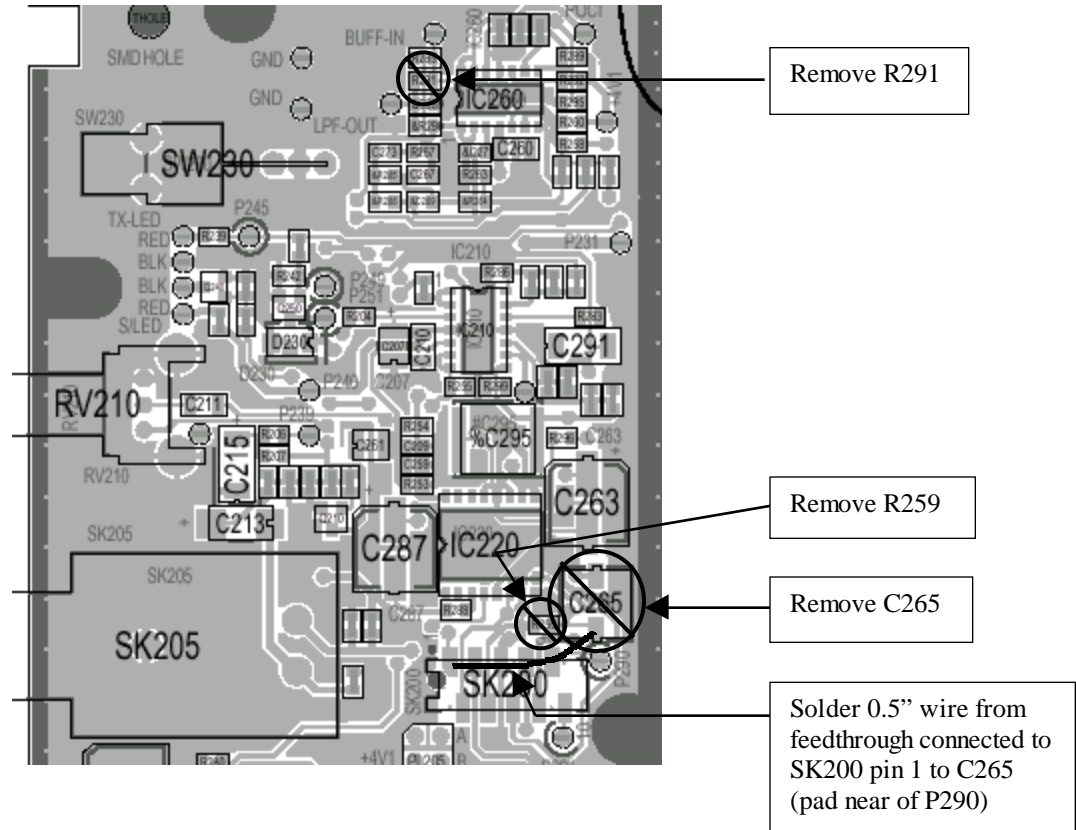

Figure 4 - T857 Exciter PCB (rev 220-01398-04), Top Side 1/2
Refer to Figure 4 page 7
8. Solder a short wire (gauge 26, 0.5" long) from feedthrough connected to SK200 pin 1 to C265 negative side pad (pad near of P290). Refer to Figure 4 page 7